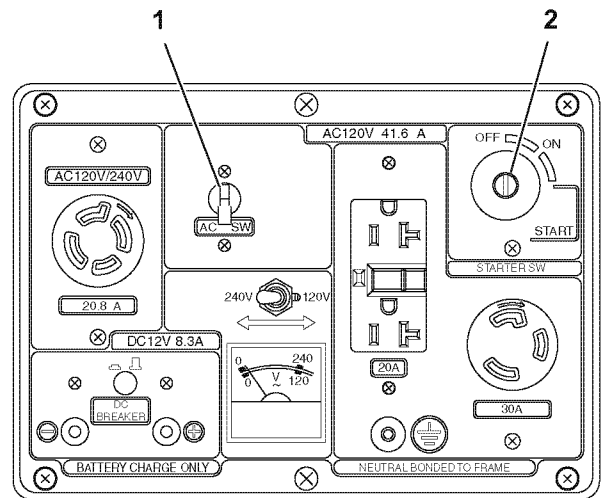

Figure 33
1. Turn the generator main AC switch (1, **Figure 33**) OFF.
3. Turn the generator key switch (2, **Figure 33**) to OFF.